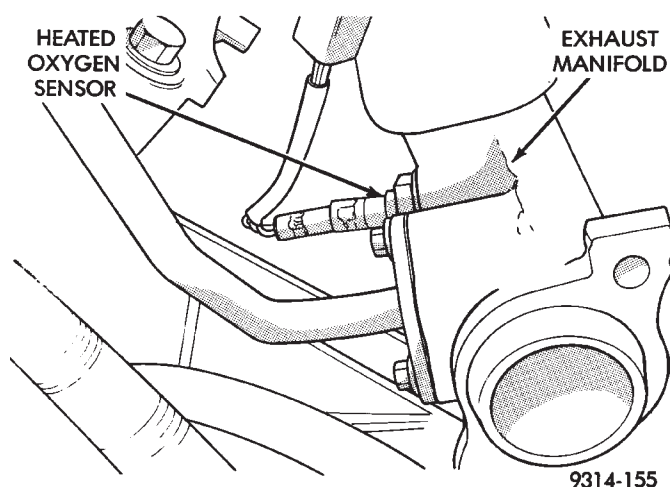

**Fig. 44 Heated Oxygen Sensor
- (1) Raise vehicle on hoist.
- (2) Disconnect electrical connector.
- (3) Use a crow-foot wrench or open end wrench to remove heated oxygen sensor (Fig. 44).